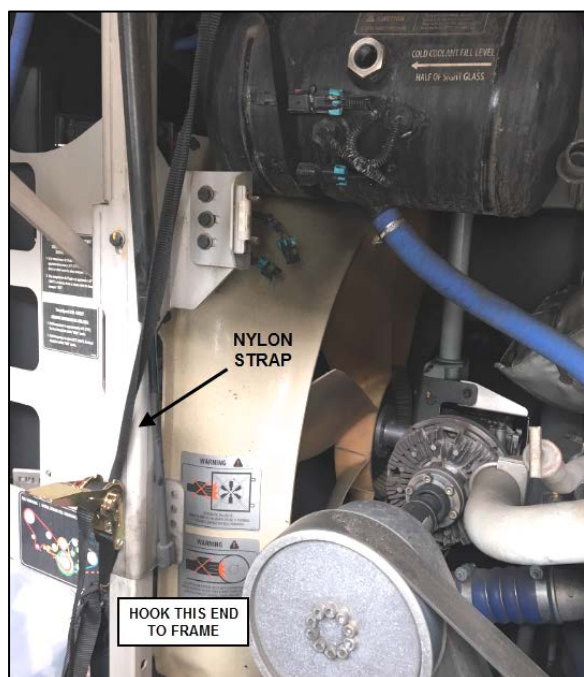

Figure 6
- Hook one end of the strap to the vehicle chassis (bumper or other low part of the frame - Figure 6).